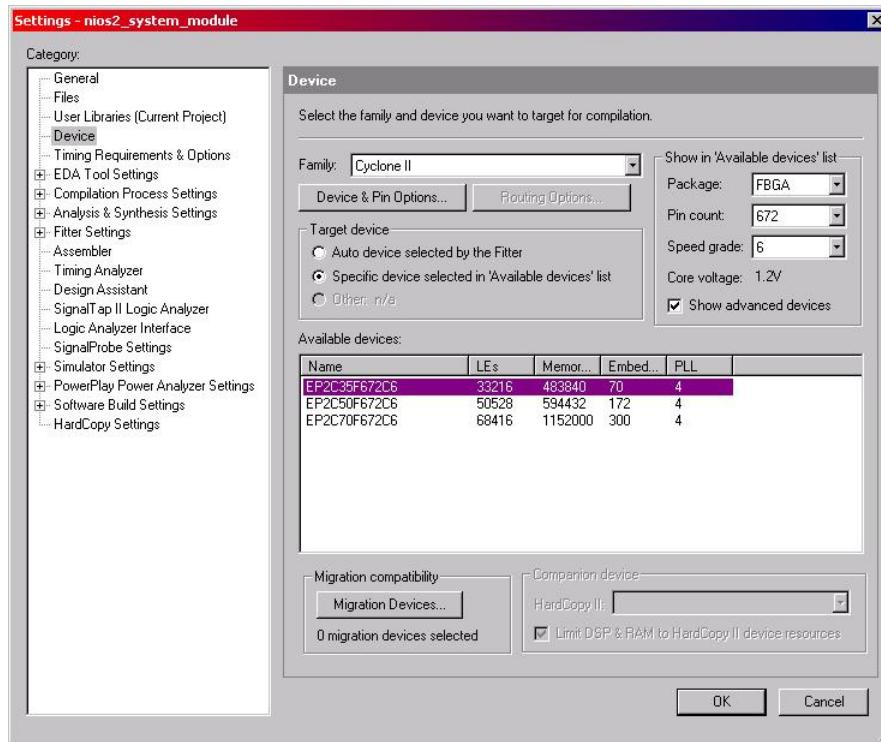

Figure A.4: Device Settings
6. In the **Available devices** list, select **EP2C35F672C6**. See Figure A.4.